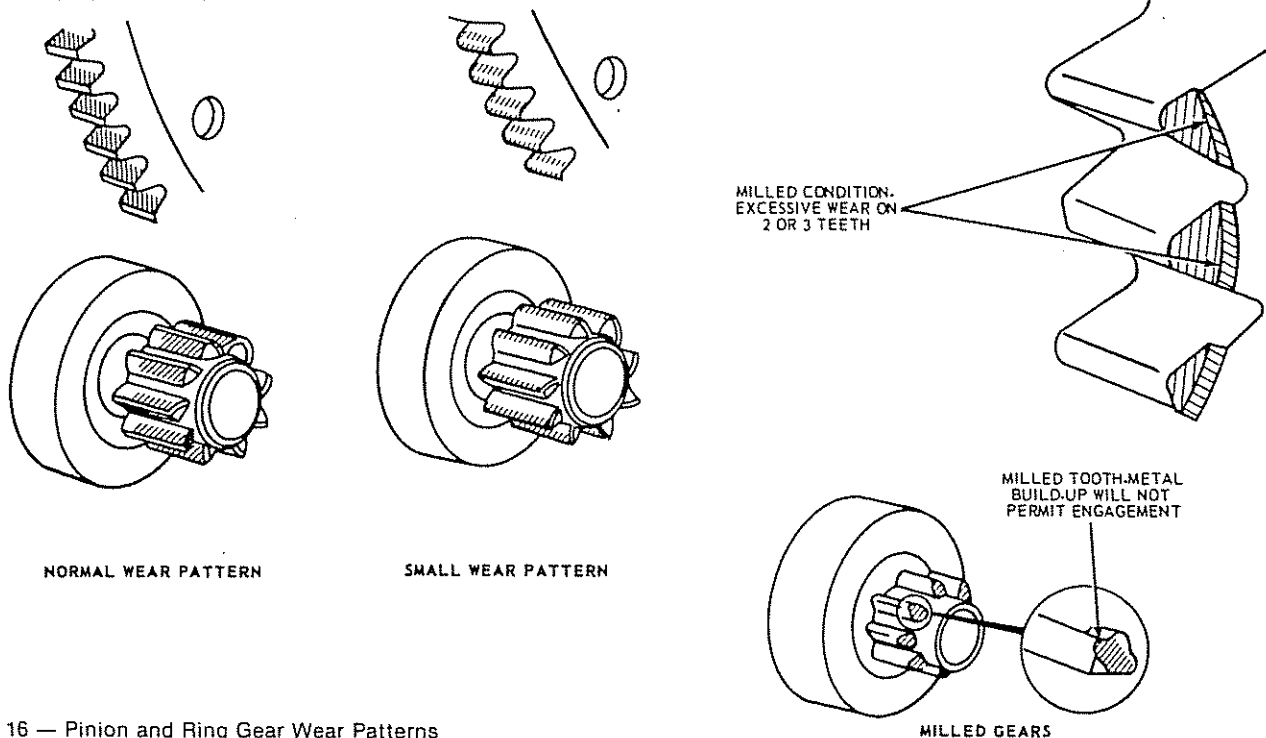

Fig. 16 — Pinion and Ring Gear Wear Patterns
8. Examine the wear pattern on the starter drive teeth. The pinion teeth must penetrate to a depth greater than 1/2 the ring gear tooth depth (Figure 16), to eliminate premature ring gear and starter drive failure.
9. Replace starter drives and ring gears with milled, pitted or broken teeth or that show evidence of inadequate engagement (Figure 16).